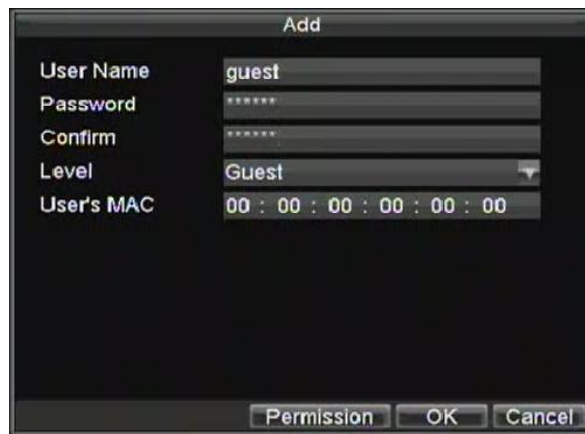

Figure 5. Add User Menu
1. Select the Add button to enter the Add User menu, shown in Figure 5.